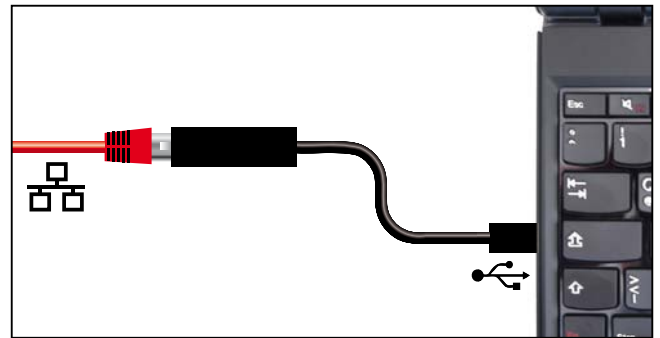

Fig. 7 Converter USB to Ethernet
- ▶ USB to Ethernet converter (Fig. 7). Makes it possible to connect the appliance's network interface (see page 13) to the USB port of a computer / laptop.